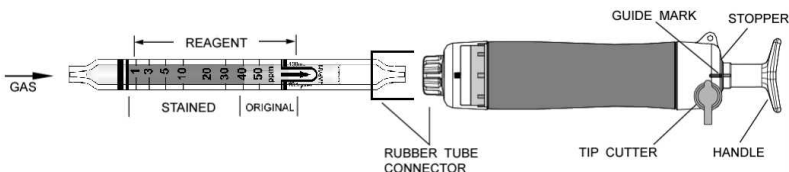

Fig.1
- ② Insert the detector tube into the aspirating pump securely as shown in Fig.1. (Arrow mark shall point to the pump.)
- ③ Align the guide marks on the shaft and stopper of the aspirating pump.
- ④ Pull the pump handle at a full stroke until it locks and wait for 4 minutes or until the completion of sampling is confirmed with the flow indicator of the pump. (See descriptions about the flow indicator in the instruction manual of the pump.)
- ⑤ On completion of sampling, read the scale at the maximum point of the stained layer.
① Temperature: Correct the tube reading by following temperature correction table.